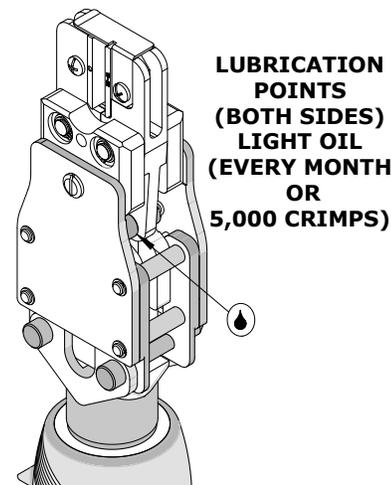

Figure 8.24
- Using a light oil such as SAE 30 weight automotive oil every 5,000 crimps or monthly will significantly enhance the tool life and ensure a stable calibration. Make certain all sliding surfaces in the tool head are protected with a thin coat of high-quality machine oil. See Figure 8.24 for lubrication points. Do not oil excessively, and wipe excess oil from the tool frame when complete.